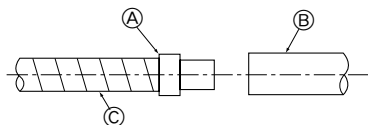

Fig. 5-1
- ① Apply refrigerating machine oil all over the flare sheet.
- ② Always use the flare nuts that are attached to the main unit.
- A Band ④
- E Pipe cover ③
- To prevent Refrigerant pipes from gathering moisture, wrap the pipes that are in the unit's pipe storage space with the felt tape provided ⑤.
5.1. Drainage piping work (Fig. 5-1)